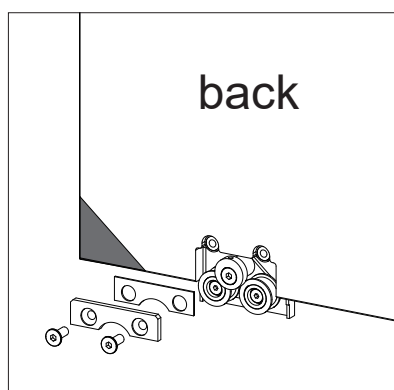
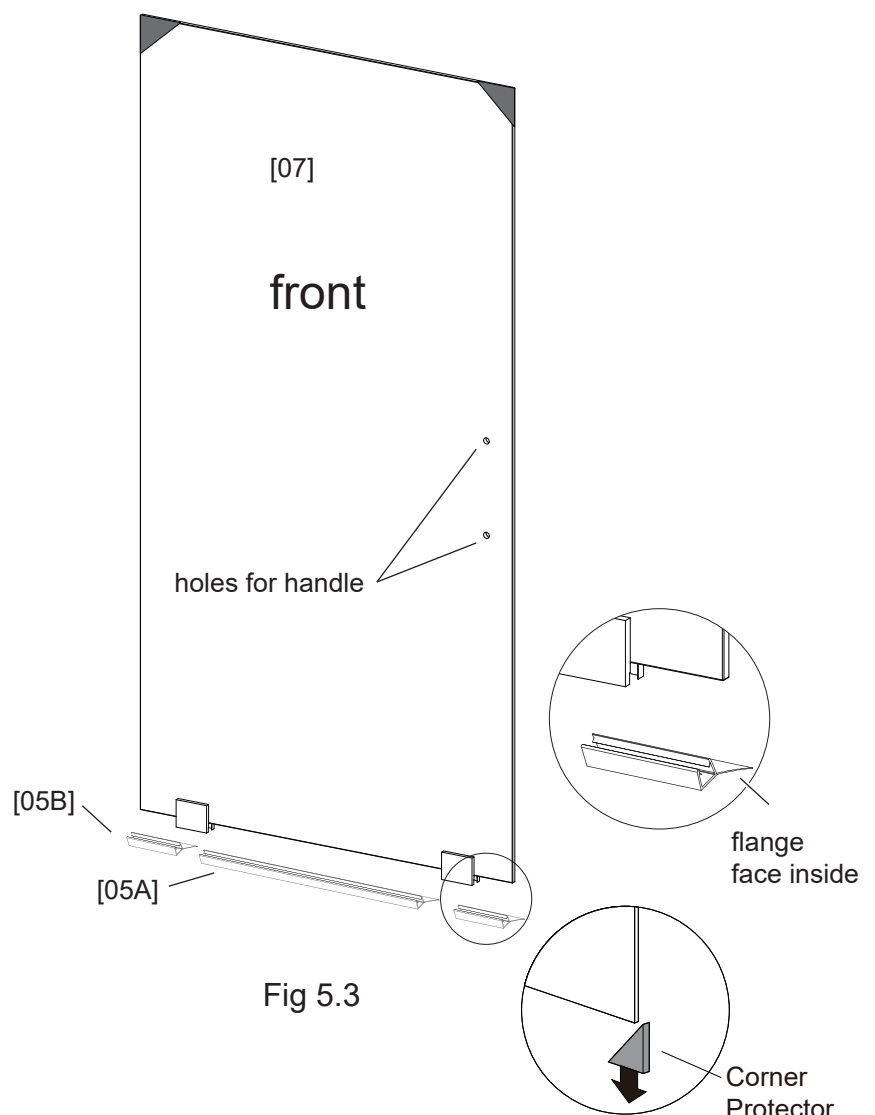

Fig 5.2
Fig 5.3
2. Install the **Rollers [02]** from the front of the **Door [07]**. (Fig 5.2, Fig 5.3)
3. Install **gaskets** and **clips** to the **Rollers [02]** from the back of **Door [07]**. Secure the **Rollers [02]** with **screws**. (Fig 5.2)
**Bottom Water Sealing Strip B [05B]** to the bottom of the **Door [07]**. (Fig 5.3)